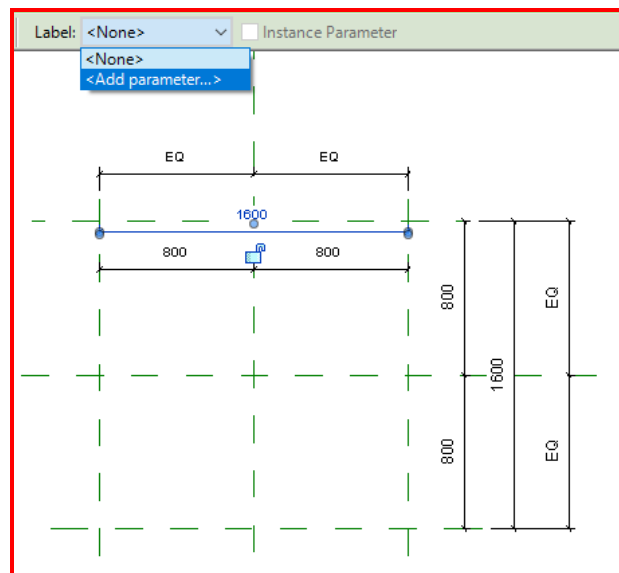

Figure 2.21
15. In the view window as shown in Figure 2.21: